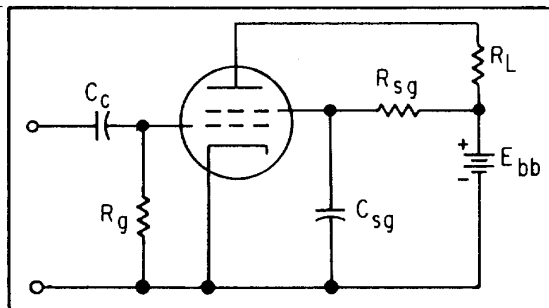

Figure 1C. —Basic tetrode circuit.
- 1-60. What is the function of C_{sg} in figure 1C above?